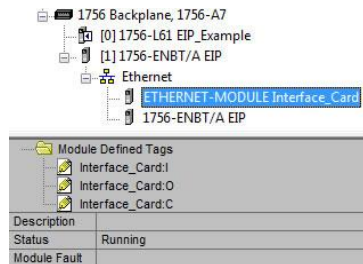

Figure 29: Online Module Status
- 7) Switch to online mode and download the project to the PLC. Verify that the newly-added inverter is available and operating correctly by observing any indications shown on the inverter's icon. When the inverter's icon is selected, its status and any available error messages will be displayed in the area below the project tree. Refer to Figure 29. Also confirm that the interface card's “Network Status” LED should be solid green, indicating an “online/connected” state.